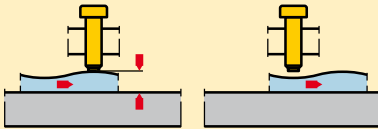

Figure 7
The illustration in Figure 7 (mechanical clamping) demonstrates that tension is relieved as the dimensions of the workpiece in the clamping area change.
- Clamping Bolts (Figure 7).